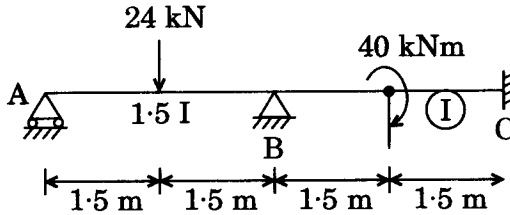

Figure 2
2. Analyse the beam loaded as shown in Figure 2 using the slope deflection method. Portion AB has a moment of inertia as  $1.5 I$  and BC has this value as  $I$ . Draw the bending moment and shear force diagrams. 14